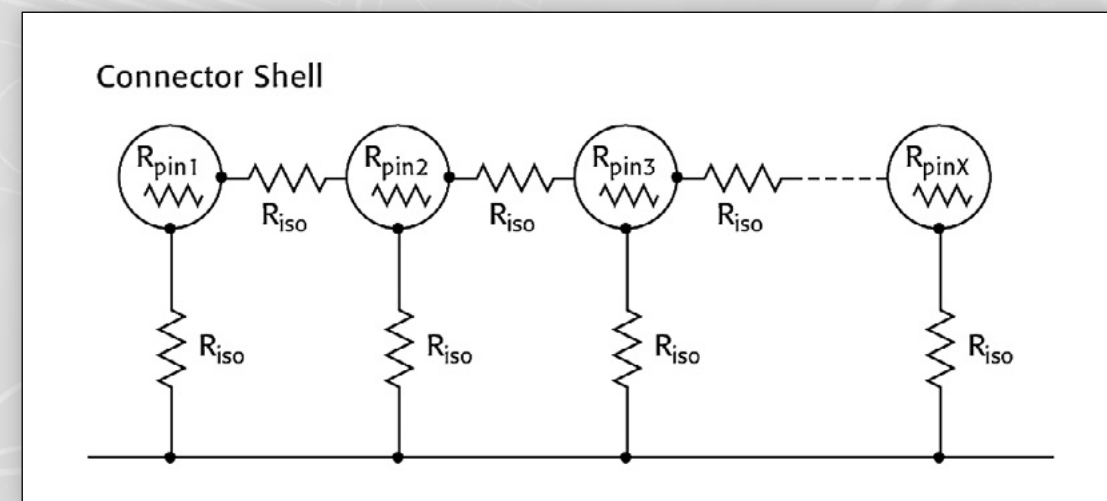

Figure 7. Electrical equivalent of a connector showing pin continuity and isolation resistance
- Connector insulation resistance** – Given today's ever-shrinking circuit geometry and the higher frequencies of electronic signals, isolation is an important consideration for reliability and crosstalk. Isolation is typically tested by applying a voltage across two pins in a connector and measuring the resulting current that flows between them. The corresponding resistance from the test is compared to a predetermined threshold value. If the resistance level is too low, the connector is rejected. **Figure 7** shows the electrical equivalent of a connector; the isolation resistance is identified as  $R_{iso}$ . When testing very high ohmic devices, the measured resistance may change significantly in response to a change in the applied voltage, an effect known as the voltage coefficient of resistance.